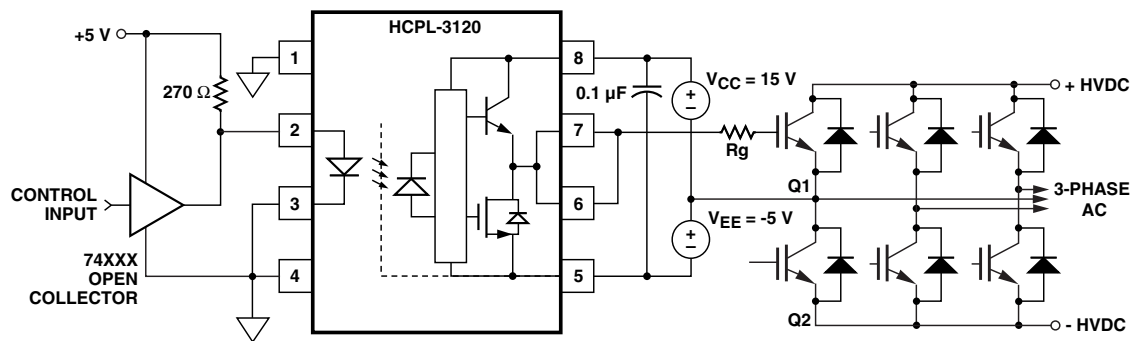

Figure 26. HCPL-3120 typical application circuit with negative IGBT gate drive.
Step 1: Calculate Rg Minimum from the IOL Peak Specification. The IGBT and Rg in Figure 26 can be analyzed as a simple RC circuit with a voltage supplied by the HCPL-3120.
For the circuit in Figure 26 with I_F (worst case) = 16mA, Rg = 8Ω, Max Duty Cycle = 80%, Qg = 500 nC, f = 20 kHz and T_A max = 85 °C: